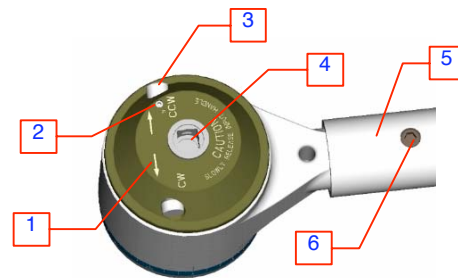

Figure 2. Input Detail
- 7.1 If you decide to use a **non-impact** power drive to speed up the process of tightening or loosening fasteners, you **MUST** remember to lock the selector pawl in the neutral position. Center the selector pawl (Fig. 2, Item 3) between the CW/CCW range of the travel and tighten the setscrew (Fig. 2, Item 2). When properly positioned, the screw will be seated in a groove in the selector pawl, so the pawl cannot be moved in either direction. Take care that the power drive is set to deliver no more than the maximum allowable input torque. See Torque Multiplier Application Tips for additional power drive information.